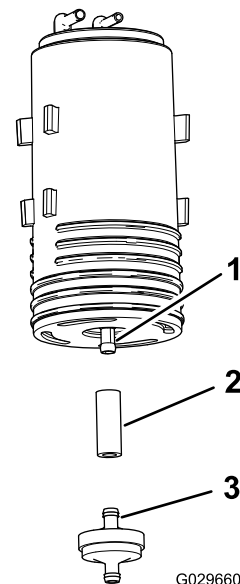

Figure 48
- Remove the carbon-canister filter and the short section of hose from the lower fitting of the old carbon canister (Figure 48).
- Install the hose onto the lower fitting of the new carbon canister (Figure 48).
- Insert the fitting of a new carbon-canister filter into the hose (Figure 48).